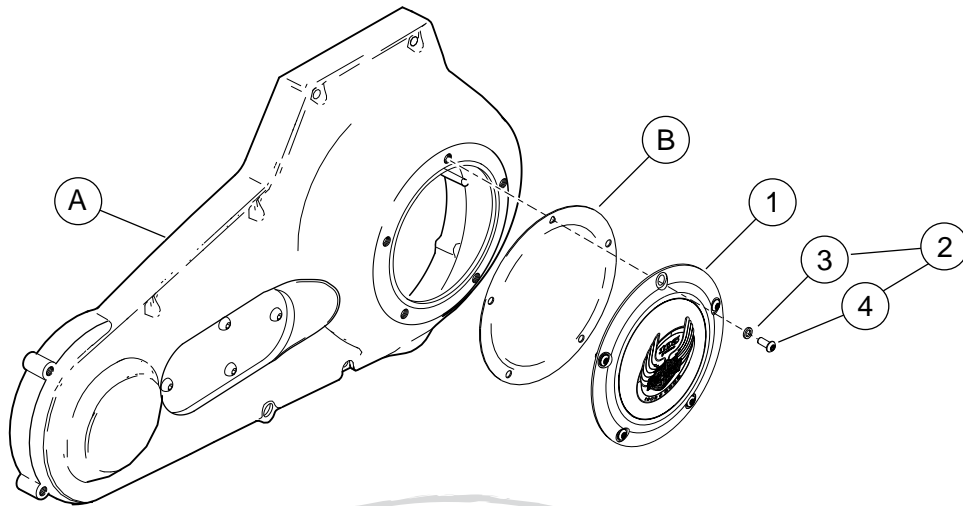

Figure 2. 105th Anniversary Derby Cover
See Figure 2 and Table 1.
- b. See Figure 2. Place a washer (3) onto the threads of one of the screws. Insert the screw threads through the top hole in the derby cover, and carefully thread it all the way through the triangular shaped hole in the gasket. Do not push the screw through the hole.